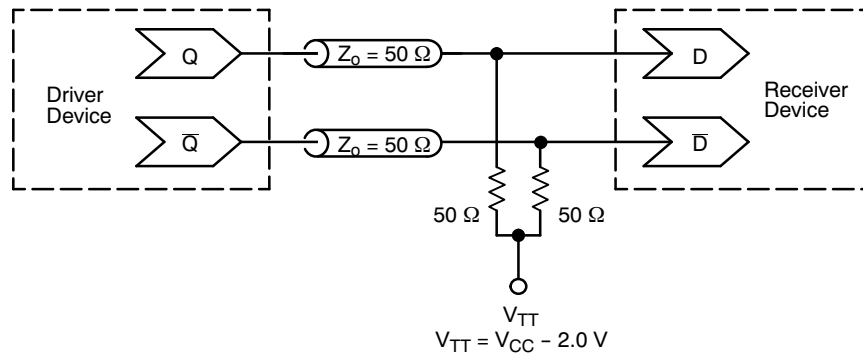

**Figure 4. Output Voltage Amplitude ( $V_{OUTPP}$ ) / RMS Jitter vs. Input Frequency ( $f_{in}$ ) at Ambient Temperature (Typical)**
22. Measured using a 500 mV source, 50% duty cycle clock source. All loading with  $50\ \Omega$  to  $V_{CC} - 2.0\text{ V}$ . For minimum  $f_{max}$  value of 10.709 GHz, output amplitude is approximately 200 mV (as shown in Figure 4, where output P-P spec is shown as a minimum/guarantee of around 150 mV). Input edge rates 40 ps (20% - 80%).
27. Measured using a 500 mV source, 50% duty cycle clock source. All loading with  $50\ \Omega$  to  $V_{CC} - 2.0\text{ V}$ . For minimum  $f_{max}$  value of 10.5 GHz, output amplitude is approximately 200 mV (as shown in Figure 4, where output P-P spec is shown as a minimum/guarantee of around 150 mV). Input edge rates 40 ps (20% - 80%).